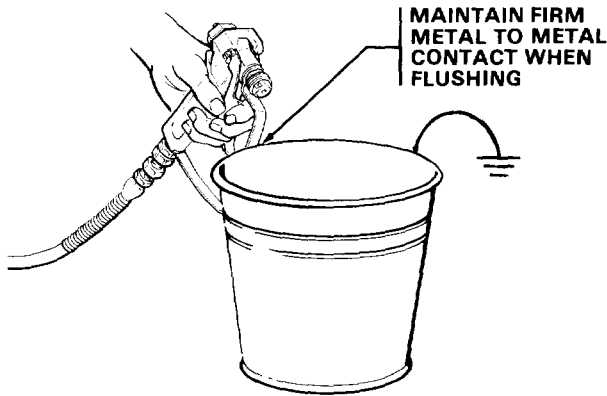

Fig 7
10. Point the gun into the metal pail and hold a metal part of the gun firmly against the pail. See Fig 7.